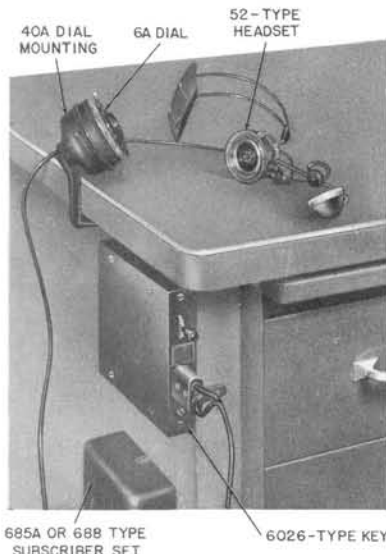

Fig. 1—Typical 4A Key Equipment Installation
3.03 When installing the key on the side of a desk or table, the face of the key should be flush with the edge of the desk or table (Fig. 1).
- (a) For side of desk, where top overhang permits, attach a 40A dial mounting to the overhang (Fig. 1).
*When a 688B (MD) or 688C subset is used, wiring changes must be made at the 6026B or 6026D key. See connections section for these required changes.*